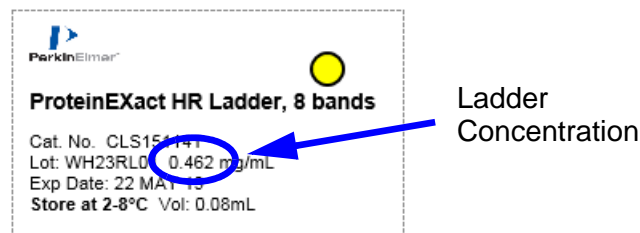

Figure 13. Ladder Concentration on ProteinEXact HR Ladder Vial Label
- 9 Type the total ladder concentration (in mg/mL) in the *Total Ladder Concentration* text box. The Ladder Concentration is specified on the ProteinEXact HR Ladder vial label as shown in Figure 13. The ladder concentration should be within the range of 0.499 mg/mL +/- 15%.